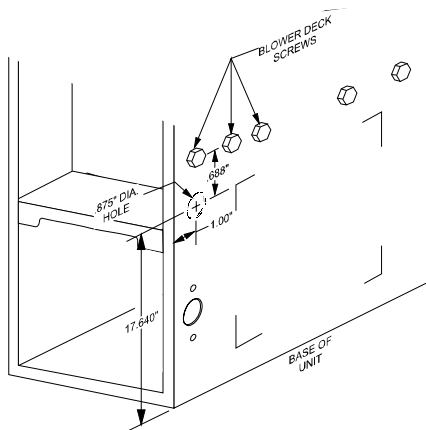

Figure 1
Use of an alternate electrical inlet is required on 90% furnace installations if the kit is to be applied on the same side as the furnace's junction box, or if the installation supports five tons of airflow (two side return air ductwork connections). The alternate inlet will allow electrical connections through the blower compartment to the junction box without interfering with the filter removal (Figure 1).
5. An alternate electrical inlet must be provided on 90% furnace installations in which the electrical supply connection and junction box are on the same side as a filter rack. Place an 0.875" diameter hole in the side panel supporting the electrical connection at the location shown in Figure 1. Attach electrical inlet to this location and plug standard electrical inlet with plug provided.